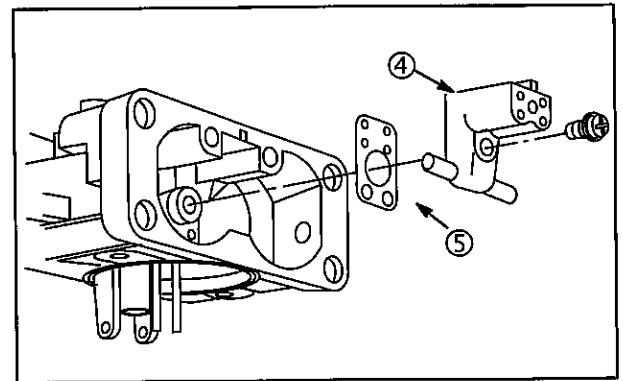

Fig. 125
3. Install nozzle body (4) with new gasket (5), **Fig. 125**. Tighten screw securely.